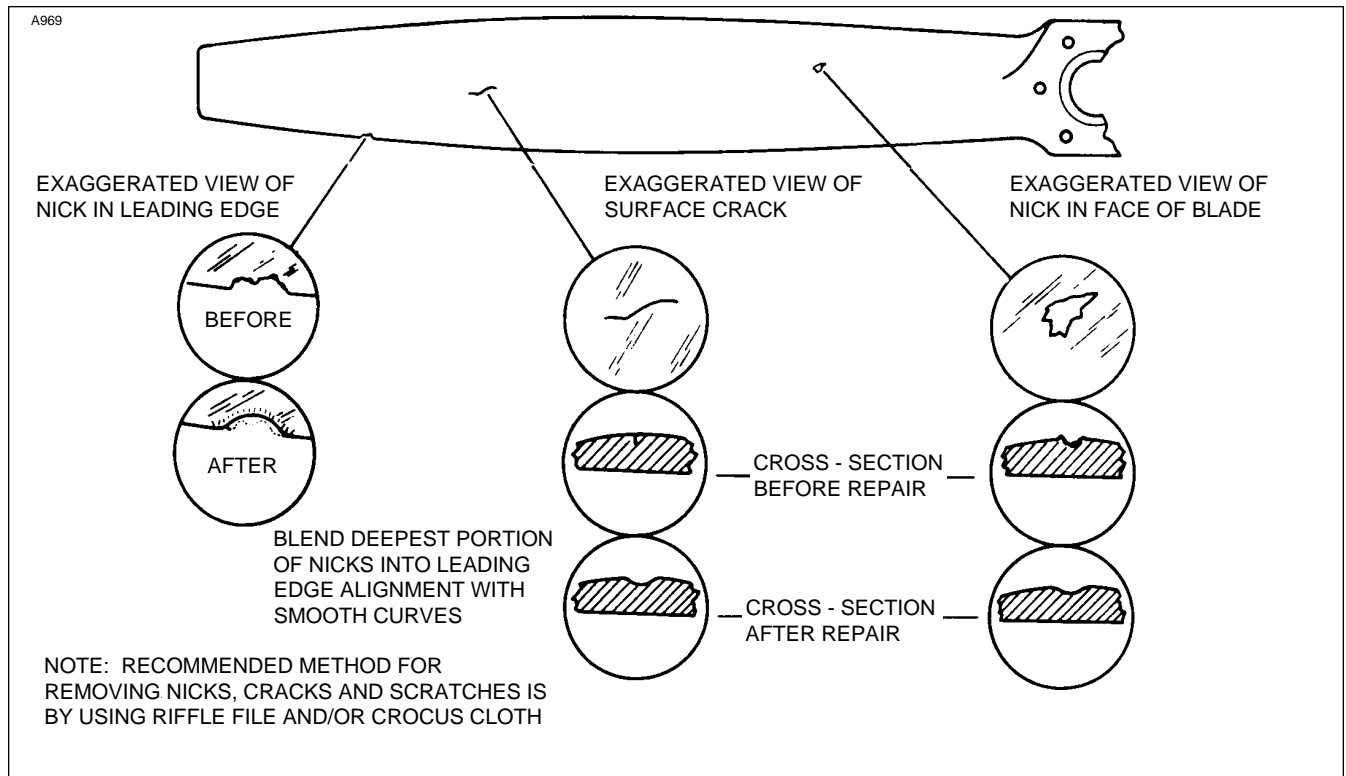

Figure 8-1 . Typical Nicks and Removal Method
- b. Nicks in the leading edges of the blades should be filed out and all edges rounded, as cracks sometimes start from such places. Use fine emery cloth for finishing. (Refer to Figure 8-1 for propeller blade care.) A propeller with several nicks, scratches, corrosion or cracks should be returned to a propeller overhaul shop or the manufacturer for inspection and repair.